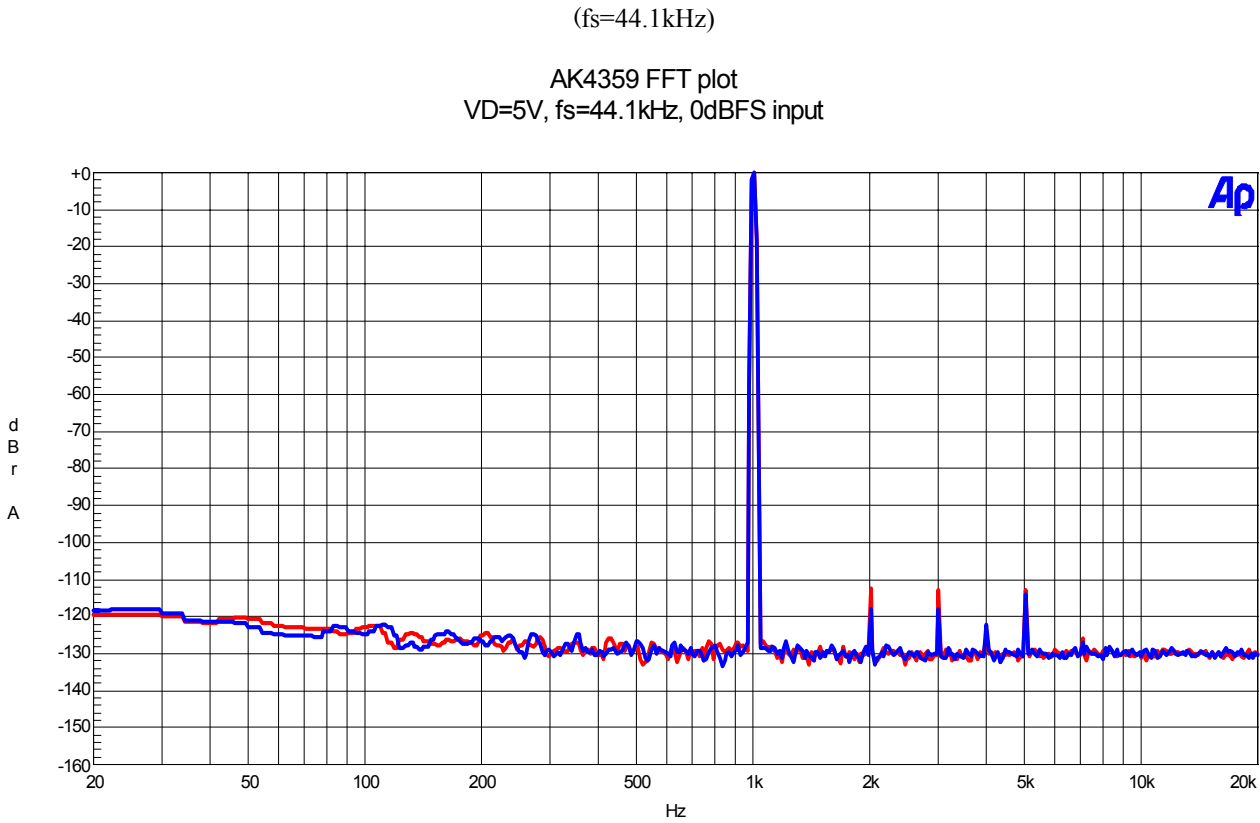

Figure 4. FFT (1kHz, 0dBFS input)
- Figure 4. FFT (1kHz, 0dBFS input)